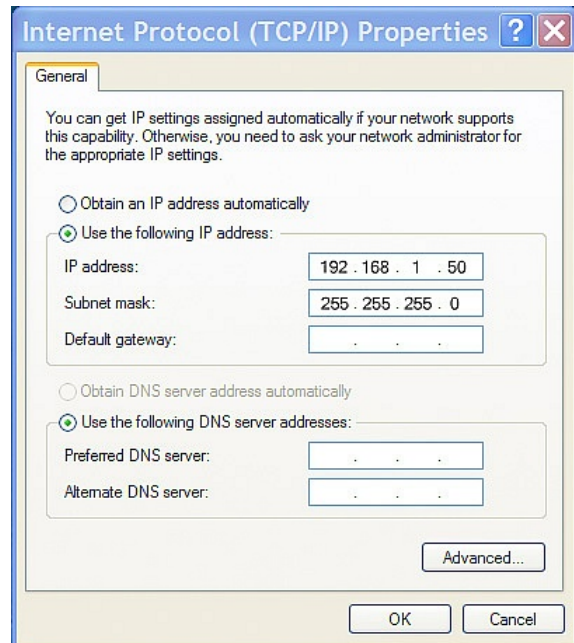

Figure 2.3e- TCP/IP Properties
4. In the Local Area Connection Properties window in the Connection Uses box, scroll down and highlight "Internet Protocol (TCP/IP)." Click the button labeled "Properties." The "Internet Protocol (TCP/IP)" Properties menu appears (Figure 2.3e).